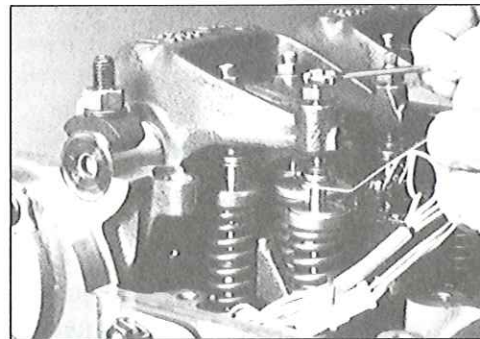

FIG. 69
6. Loosen the locknut and turn the adjusting set screw (Fig. 69) until the feeler gage produces an even or smooth pull between the valve stem and the valve button.